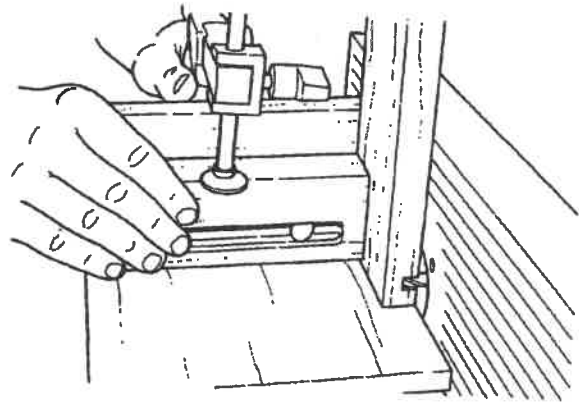

Fig. E-2
6. Place the miter gauge/sliding table jig in the miter channel and secure workpiece "A", as demonstrated in Fig. E-2.
8. Install the guard (13) on the slide.